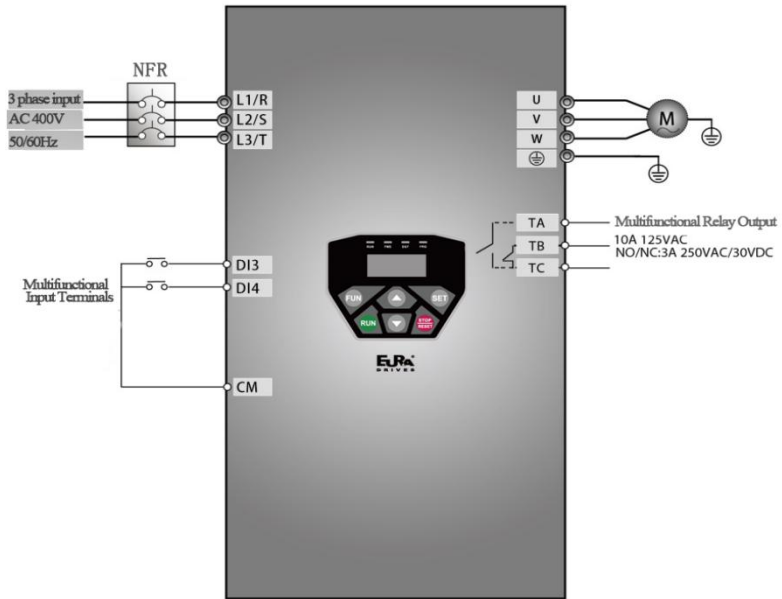

Figure 5-2 Wiring Diagram
(1) Connect the wires in accordance with Figure 5-2. After having checked the wiring successfully, switch on the air switch, and power on the inverter;